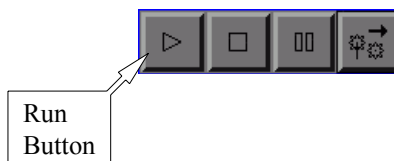
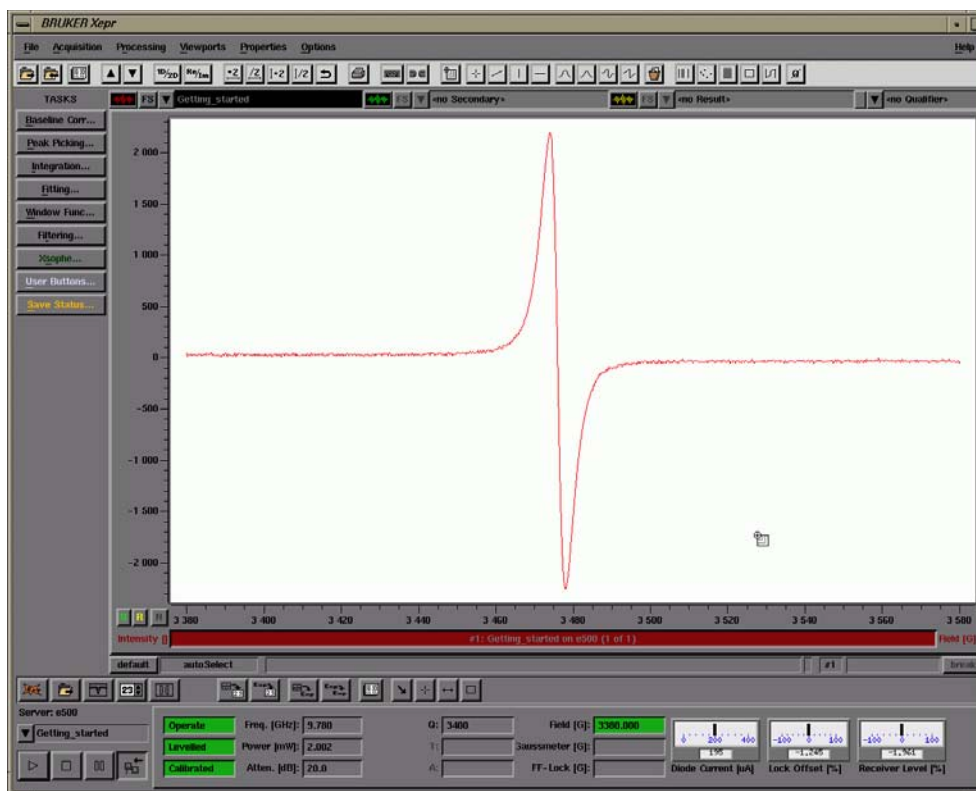

Figure 3-19 The Run button.
Figure 3-20 An EPR signal of strong pitch.
10. **Acquire a spectrum.** Click the RUN button to start an acquisition. (See Figure 3-19.) If you have a spectrum similar to the one in Figure 3-20, congratulations! You have successfully acquired an EPR spectrum.